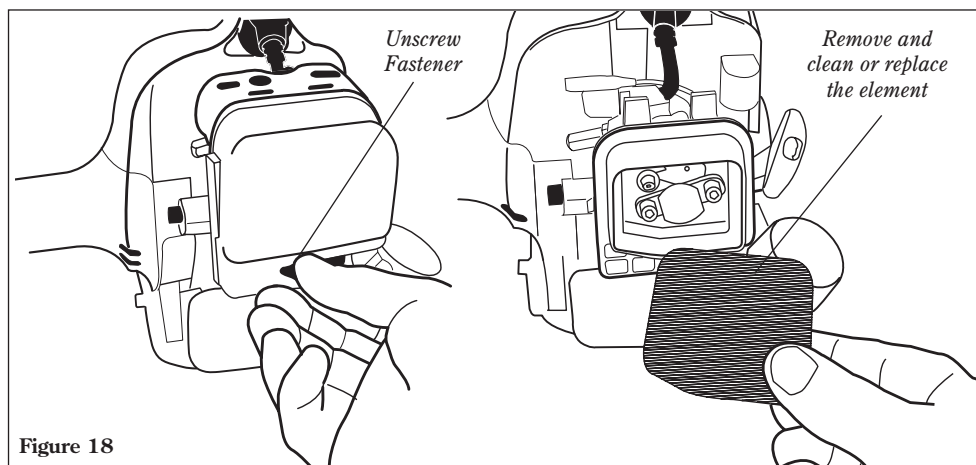

Figure 18
■ Remove the air cleaner element. See Figure 18. Clean or replace as necessary. To clean element: wash it thoroughly in soap and water. Let it dry before reinstalling the element.